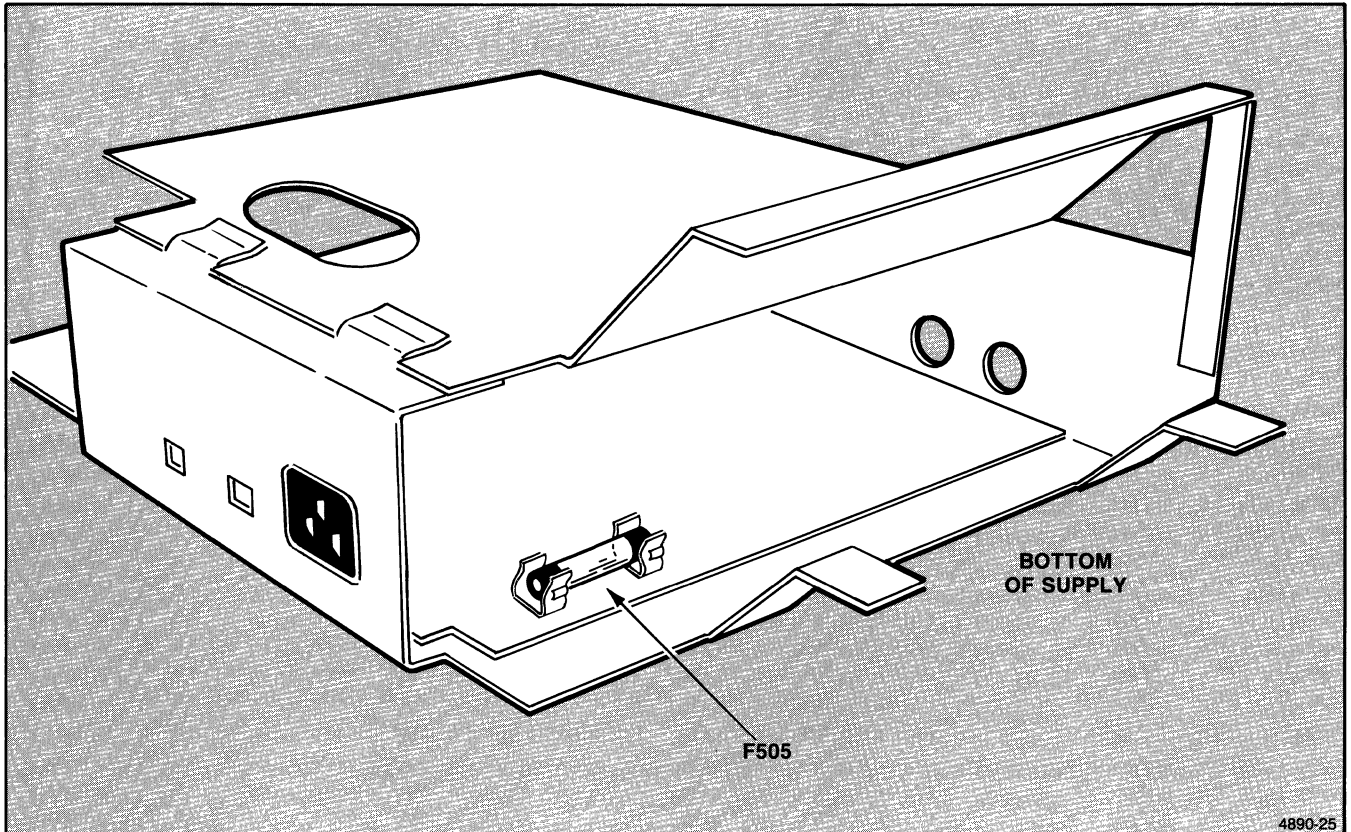

Figure 6-6. Power Supply Module Fuse Location.
A fire protection fuse is located at the bottom of the Power Supply Module board (just behind the ac power receptacle). See Figure 6-6.
3. Remove the screw that fastens the ac power receptacle to the circuit board and the chassis. See Figure 6-6, again.